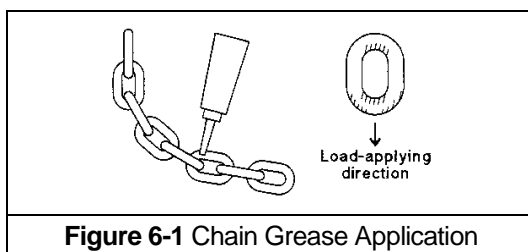

Figure 6-1 Chain Grease Application
- Apply Harrington Hoist, Inc. lubricating grease (Part No. ER2CS1951) or an equivalent to industrial general lithium grease, NLGI No. 0, to the bearing surfaces of the load chain links as indicated by the shaded areas in **Figure 6-1**. Also apply the grease to the areas of the load chain (shaded areas in **Figure 6-1**) that contact the load sheave. Insure that the grease is applied to the contact areas in the load sheave pockets.